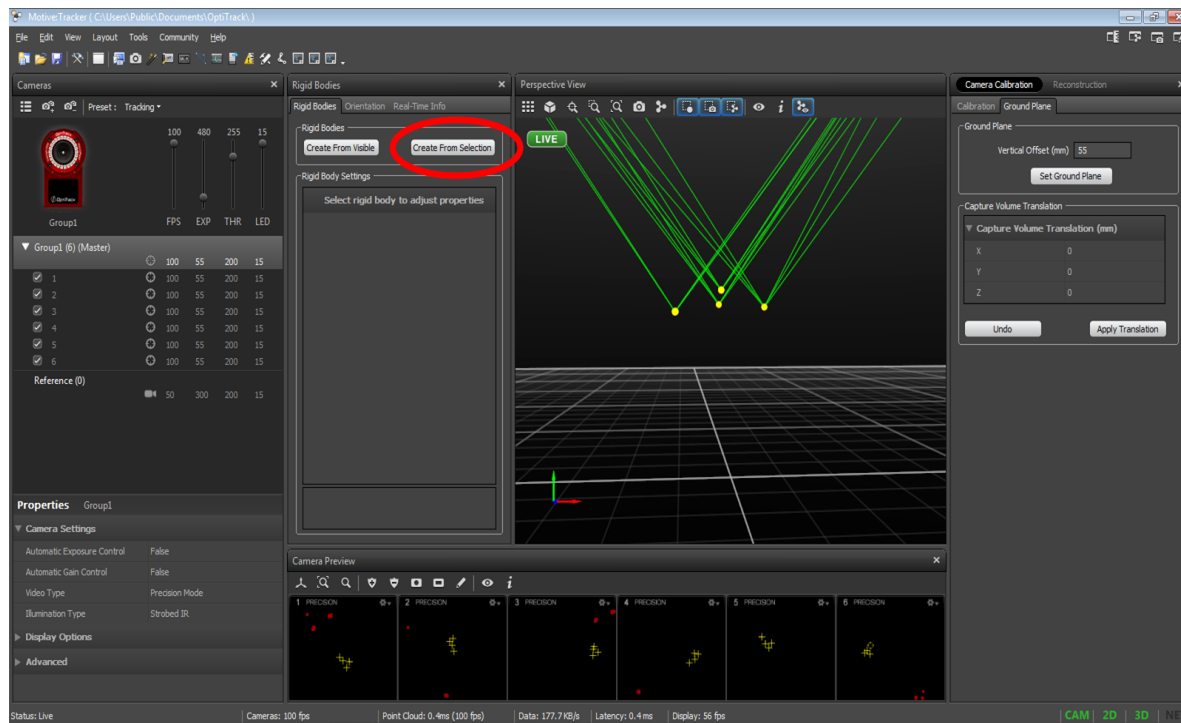
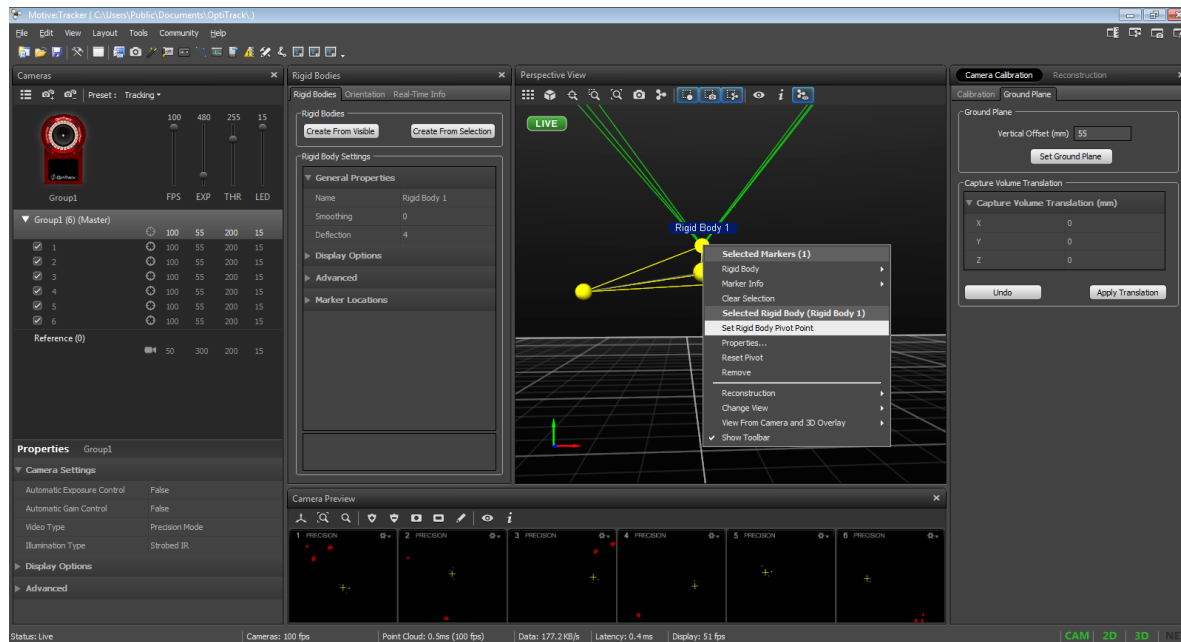
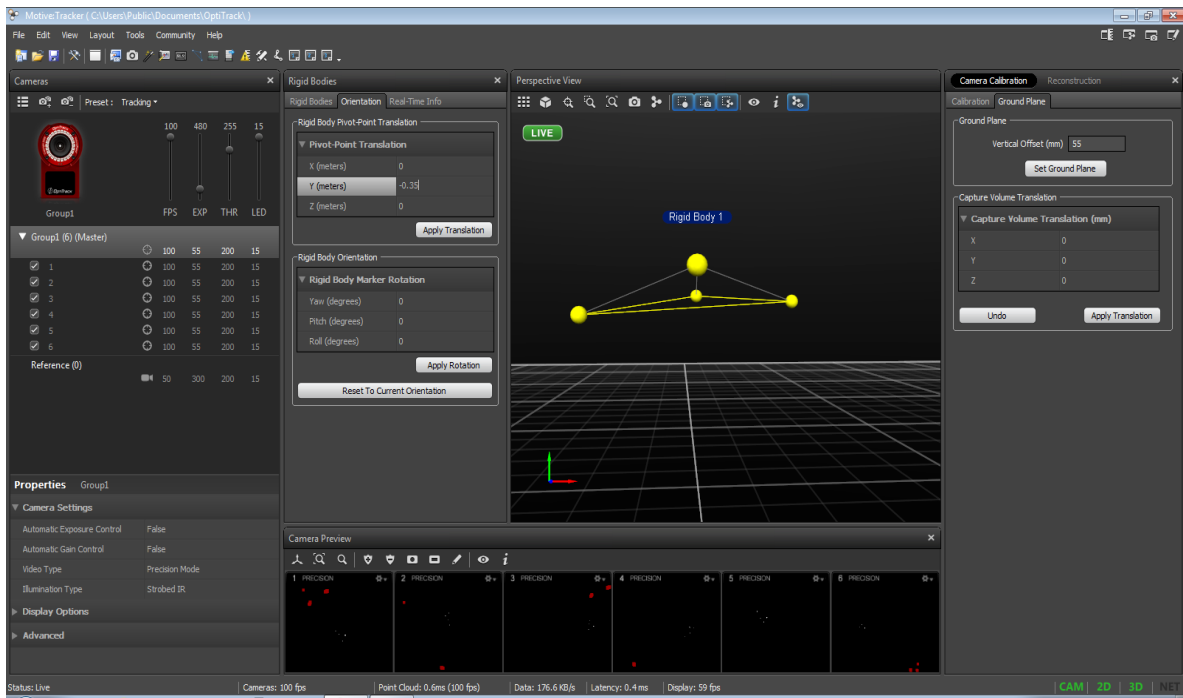
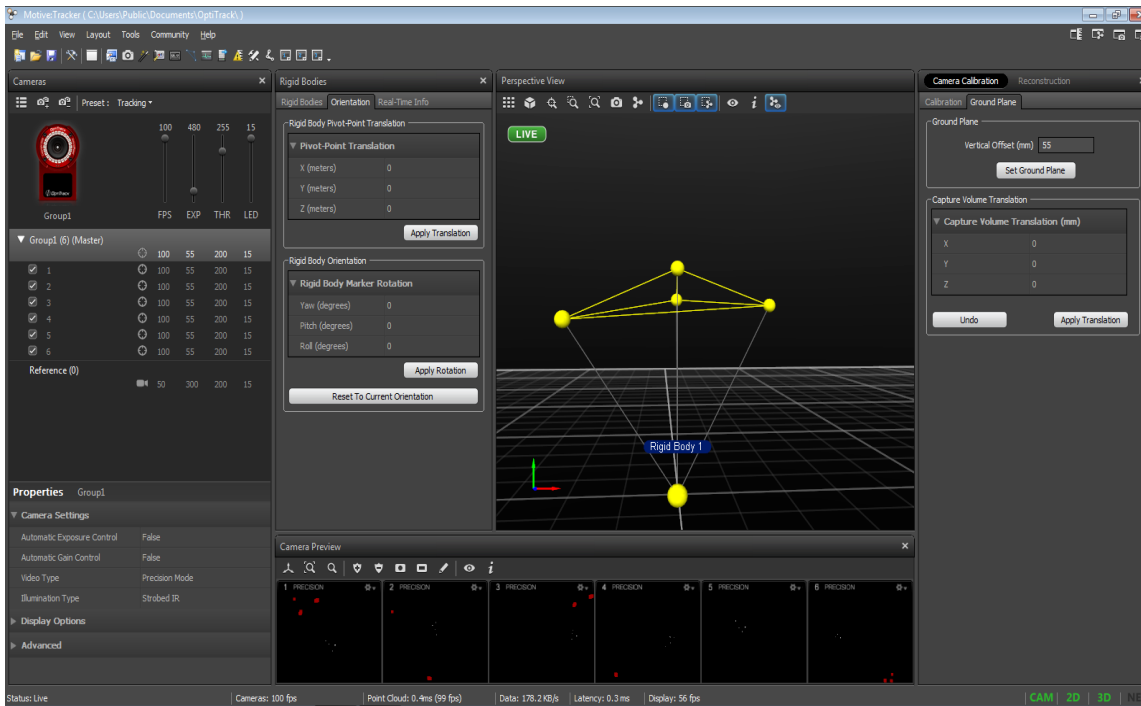

Figure 34: Select Qball markers to create a rigid body object.
Figure 35: Set the new rigid body pivot point.
Figure 36: Apply a vertical translation to the Qball rigid body pivot point.
Figure 37: Qball rigid body pivot point moved to the center.
5. Using the mouse, select the markers corresponding to the Qball as shown in Figure 34.
6. Click on the Create From Selection button shown in Figure 34. The previously highlighted markers now show up as Rigid Body 1, as seen in Figure 36.
7. The pivot point of the rigid body must now be moved to the center of the Qball. Select the Qball rigid body in the left side Project Explorer pane. While the rigid body is selected, hold the CTRL key and select the top-most marker on the Qball and set it as the pivot point by right-clicking it and select Set Rigid Body Pivot Point, as shown in Figure 35. Next, select the Orientation tab in the Rigid Body view pane as shown in Figure 36. Under Translation, set the Y translation to -0.35 meters (negative 35 centimeters from the top point is the center of the Qball), as shown in Figure 37. Click Apply Translation. The pivot point will move from the top of the cage to the center.